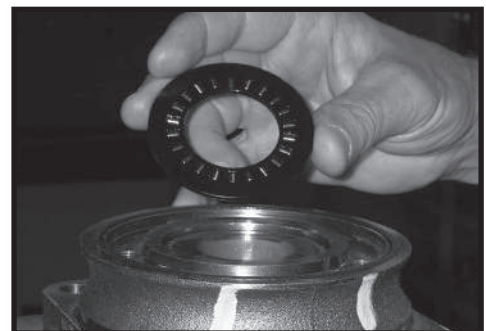

Figure 18
- Remove thrust bearing (11) from top of coupling shaft (12) if Torqmotor is a Series TF, TG, TH or TL. Inspect for wear, brinelling, corrosion and a full complement of retained rollers. SEE FIGURE 18.